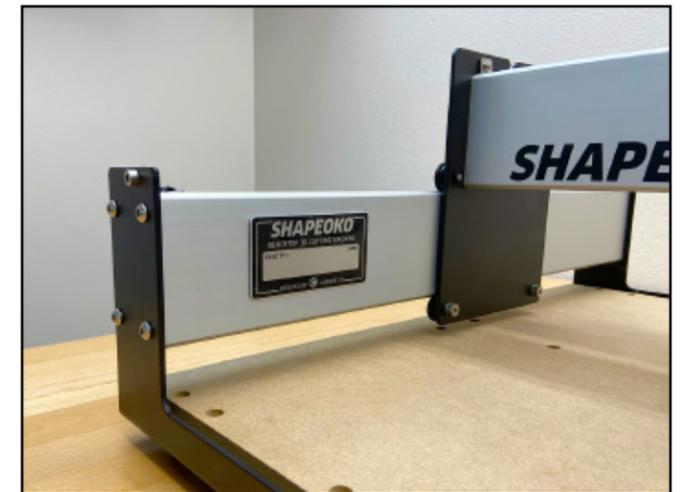

Figure 7-16
1. Write your name on the Shapeoko Build with the included permanent marker and apply it to the inside of the Y1-rail. See **Figure 7-16**.